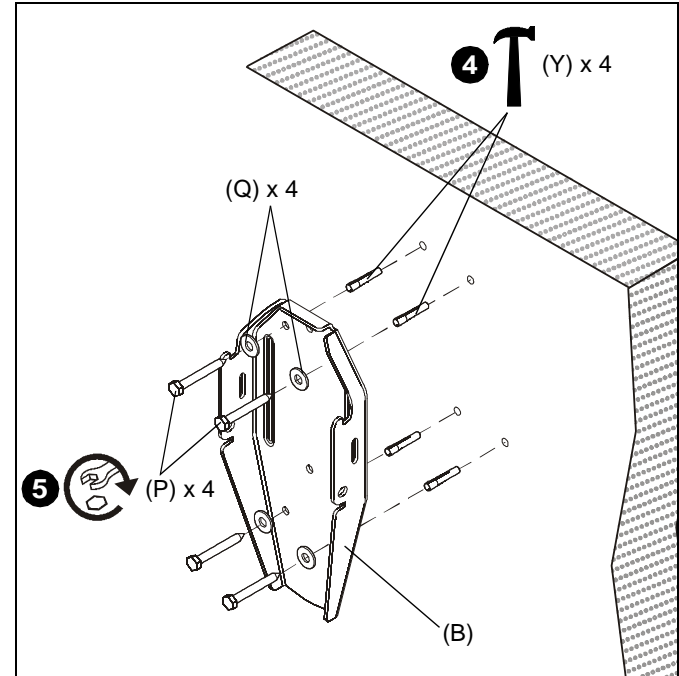

Figure 2
4. Install four concrete anchors (Y) into drilled holes. (See Figure 2)
5. Install four 5/16 x 2-1/2" hex head lag screws (P) through four 5/16" washers (Q), outer holes of wall bracket (B) and into concrete anchors (Y). (See Figure 2)